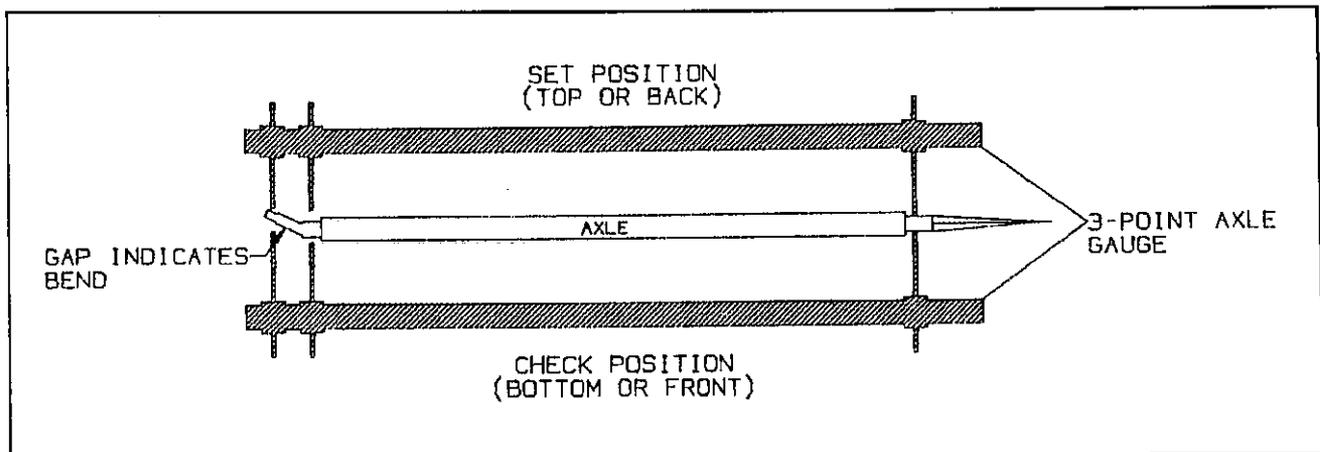

Fig. 4-6 Checking Axle for Bend
point on the inner bearing surface on the other spindle)(see Figure 4-6).
c. Move the axle gauge and place against the back side of the axle. If either of the points of double point end fails to touch the axle surface, a bent spindle is evident. A point gap of .015" or more is considered excessive tire "toe" and the axle must be replaced (see Figure 4-6).